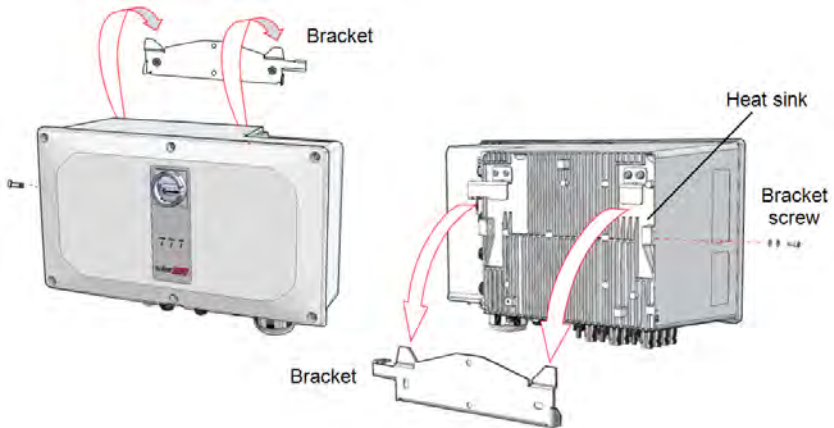

Figure 15: Hanging the Synergy Manager
- Align the two indentations in the enclosure with the two triangular mounting tabs of the bracket, and lower the unit until it rests on the bracket evenly (see *Figure 15*).
- b. Align the two indentations in the enclosure with the two triangular mounting tabs of the bracket, and lower the unit until it rests on the bracket evenly (see *Figure 15*).